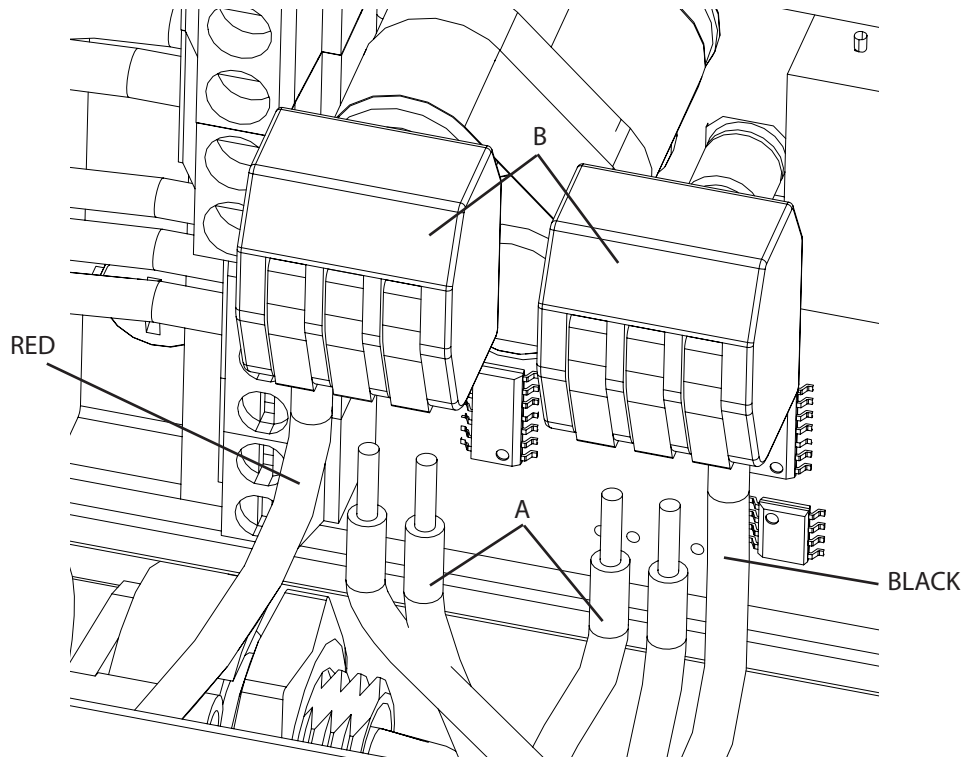

Figure 9: Connecting the motor harnesses.
- Connect the motor harnesses (A) to the lever splicing connectors (B). The red and white wires from the motor harnesses connect to the lever splice connector with the red wire from the switch. The black wires from the motor harnesses connect to the lever splice connector with the black wire from the switch. (Figure 9)